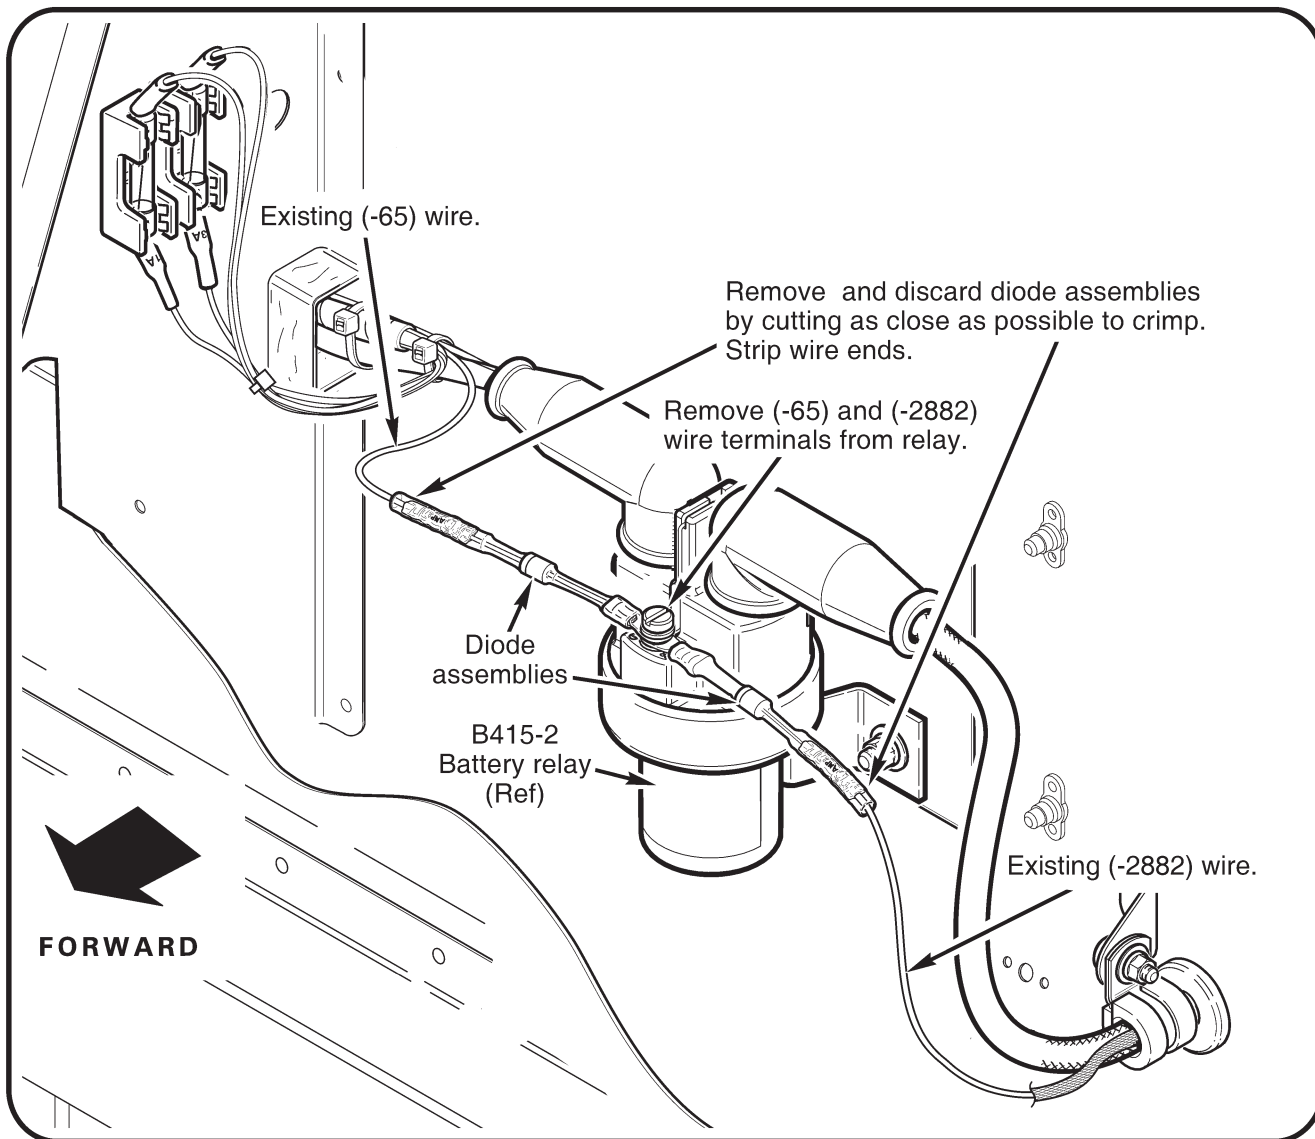

FIGURE 1 Existing installation
3. Refer to Figure 1. Remove and retain hardware securing ring terminals of (-65) & (-2882) wires to B415-2 relay forward terminal (marked “-”, “85”).